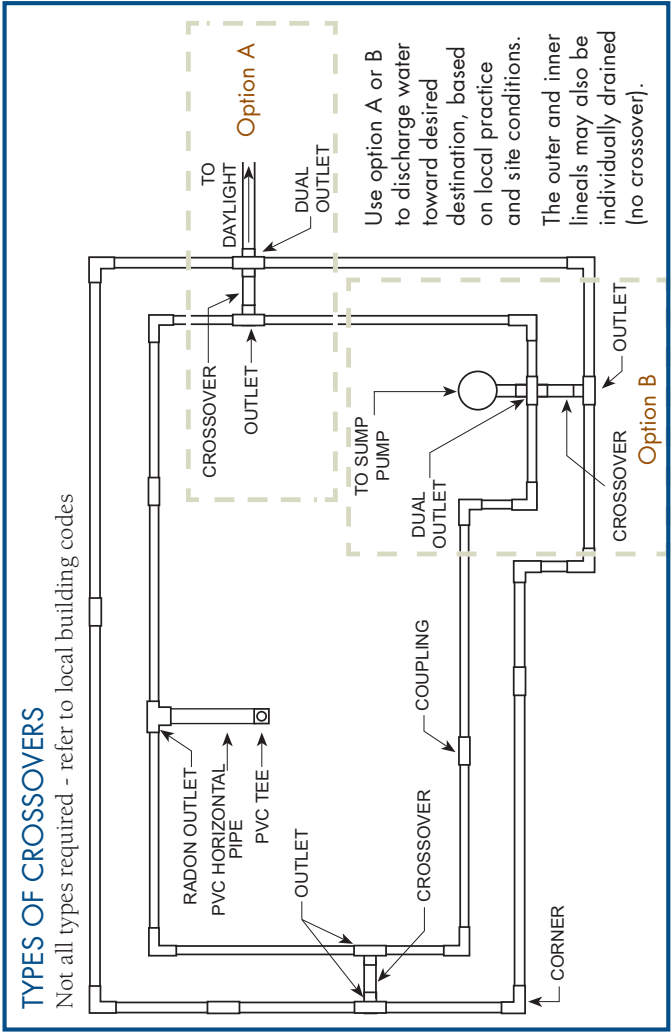

FIGURE 1
2. Drainage outlet adapters must be installed with the round adapter positioned at the bottom of the fitting (Figure 1).